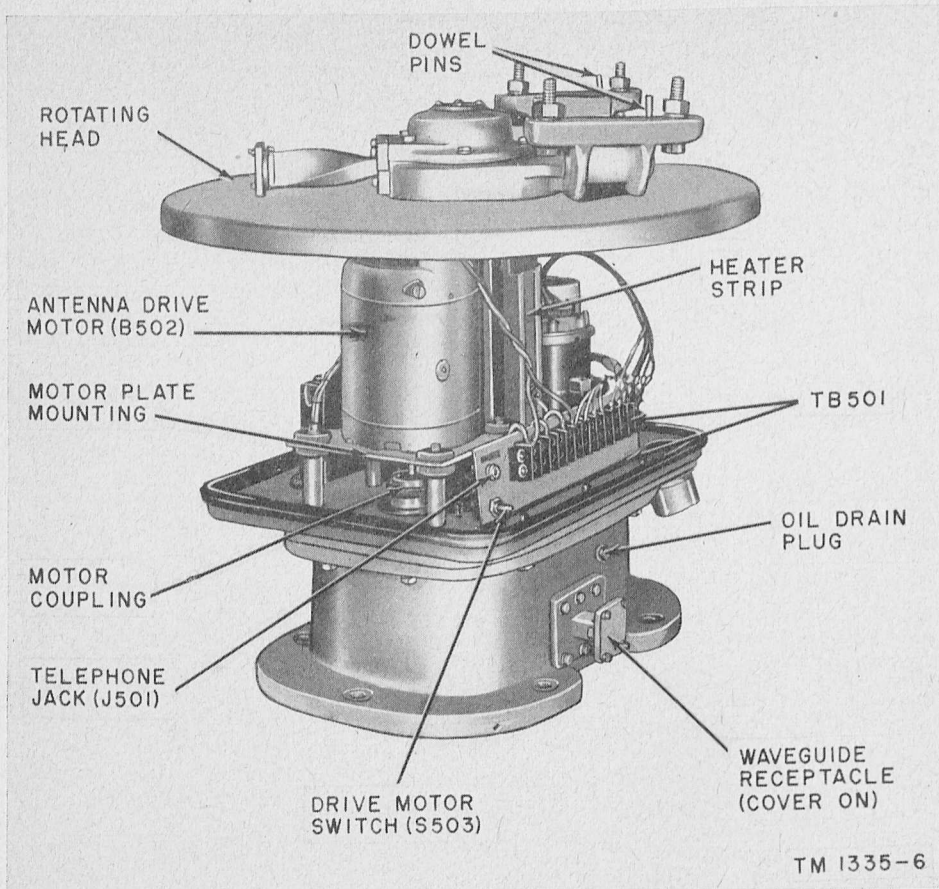
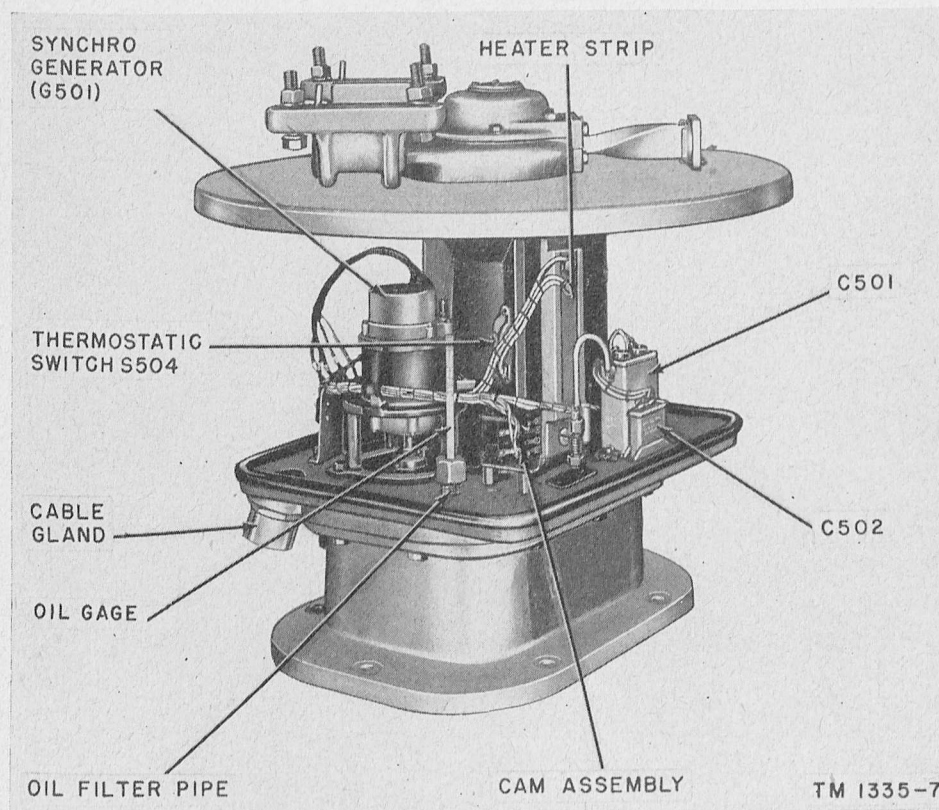

Figure 3. Antenna pedestal with covers removed, rear view.
Figure 4. Antenna pedestal with covers removed, front view.
(a) An antenna drive motor (fig. 3) to drive the rotating assembly.
(b) A synchro transmitter, also called a synchro generator (fig. 4), to synchronize rotation of the PPI sweep with rotation of the antenna.
(c) An antenna cam assembly (fig. 4) to actuate heading flash circuits in the indicator.
(d) Heater strips (figs. 3 and 4), capacitor C502 (fig. 4), and a thermostat (fig. 4) to maintain a reasonably constant temperature within the pedestal.
- (e) Terminal board TB501 (fig. 3) for the drive motor switch, a telephone jack, and terminal stud screws (for cable W702).
- (2) The lower section contains the gear assembly through which power is applied from the drive motor to the rotating assembly. The gears are immersed in oil and an oil drain plug is located above the waveguide connection (fig. 3). The oil filter pipe extends into the upper section (fig. 4), and the oil gage can be checked by removing one of the covers from the upper section of the pedestal. The word FORWARD is cast on the front or forward side of the pedestal, so that the antenna can be oriented properly in the fore-and-aft direction during installation.